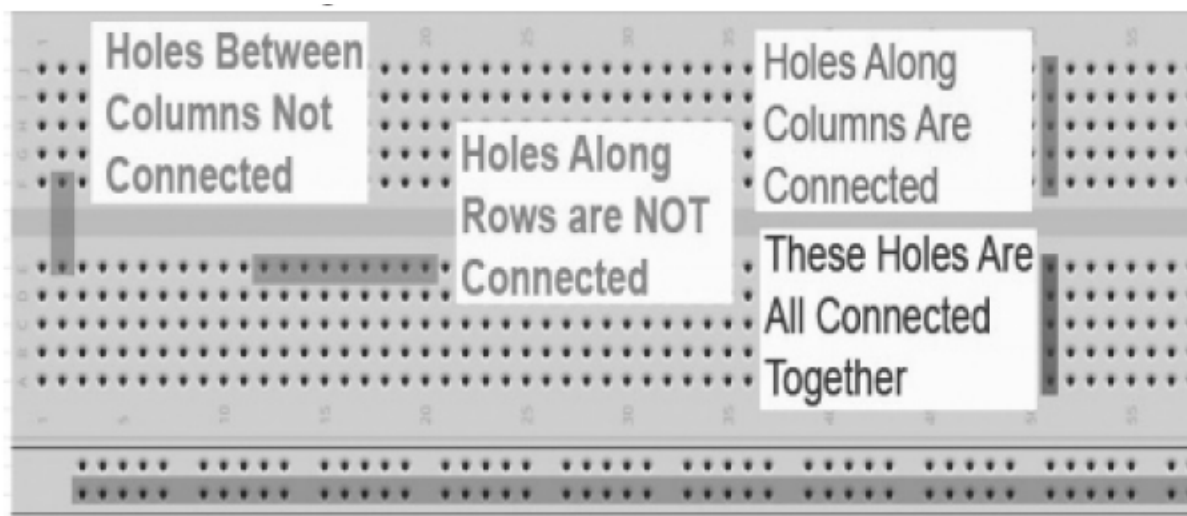

Figure 5.6 : Breadboard for prototyping Arduino Uno circuits.
- In order to keep your circuit organized you need to use a breadboard, pictured below in Figure 5-6.